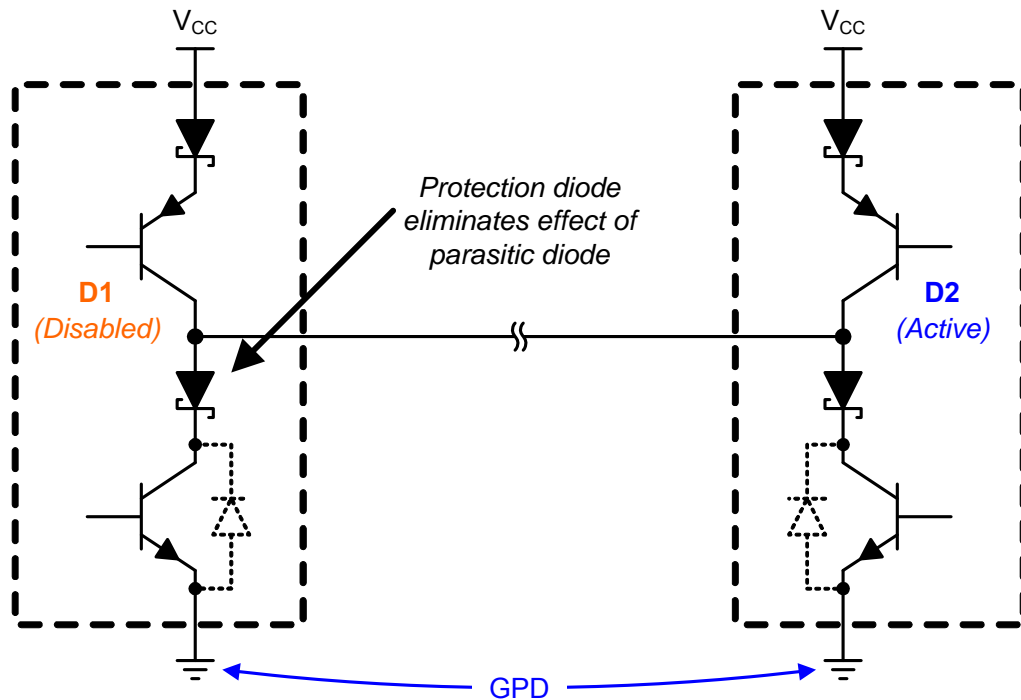

Figure 10. RS-485 Driver Output Structure
- Figure 10. RS-485 Driver Output Structure 6